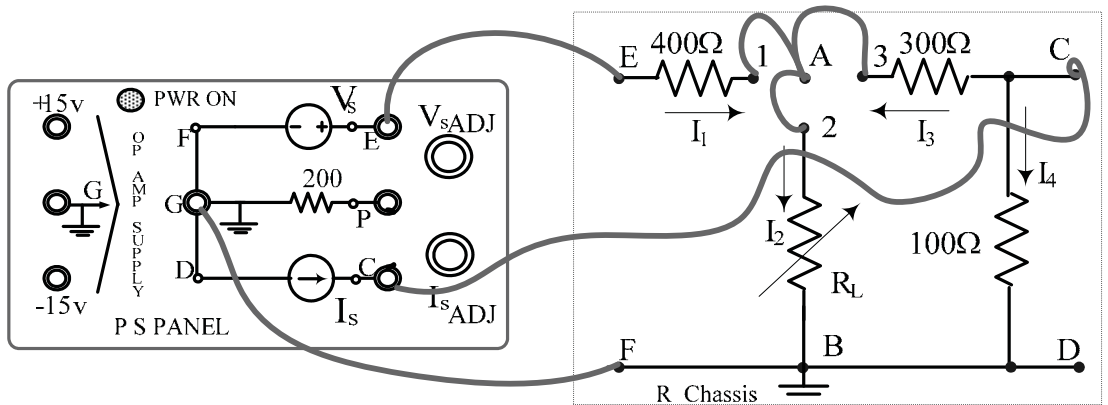

Figure 1.12
**PART (B): Procedure & Results**
1. **Make sure that the PSP is turned OFF.** Make the patchcord connections shown in Figure 1.12 between the PSP and the R-Chassis using banana-plug patchcords of appropriate lengths and colours\*